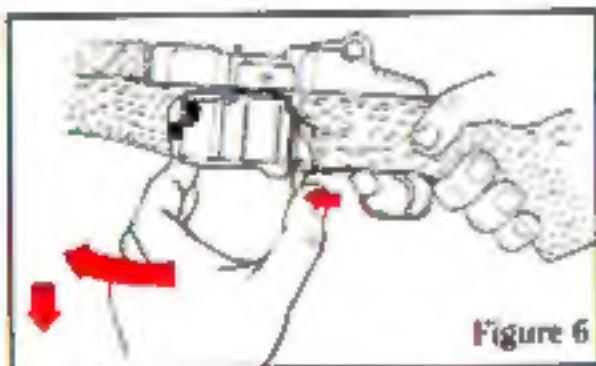

Figure 6
To remove the magazine, simply push the magazine latch forward until the rear end of the magazine drops out of the magazine well. The magazine can then be withdrawn from the rifle. To minimize the possibility of damage and malfunctions, do not let the magazine drop to the ground (See Figure 6, p. 18).
1. With the rifle pointing in a safe direction, safety "ON", remove the magazine by pushing catch forward to release magazine, while drawing magazine down and forward (See Fig. 6).